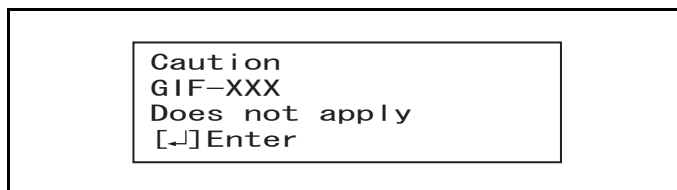

Figure 5.2
- Two endoscopes may not be tested simultaneously depending on the compatibility of the endoscopes. Refer to the “List of Compatible Endoscopes <ALT-Y0003>” for the endoscope that cannot be tested simulataneously. If you attempt to have this equipment recognize the second ID, the panel will display the message as shown in Figure 5.2, and the endoscope ID can not be detected. Press the ENTER button to restart the scope ID detection procedure.